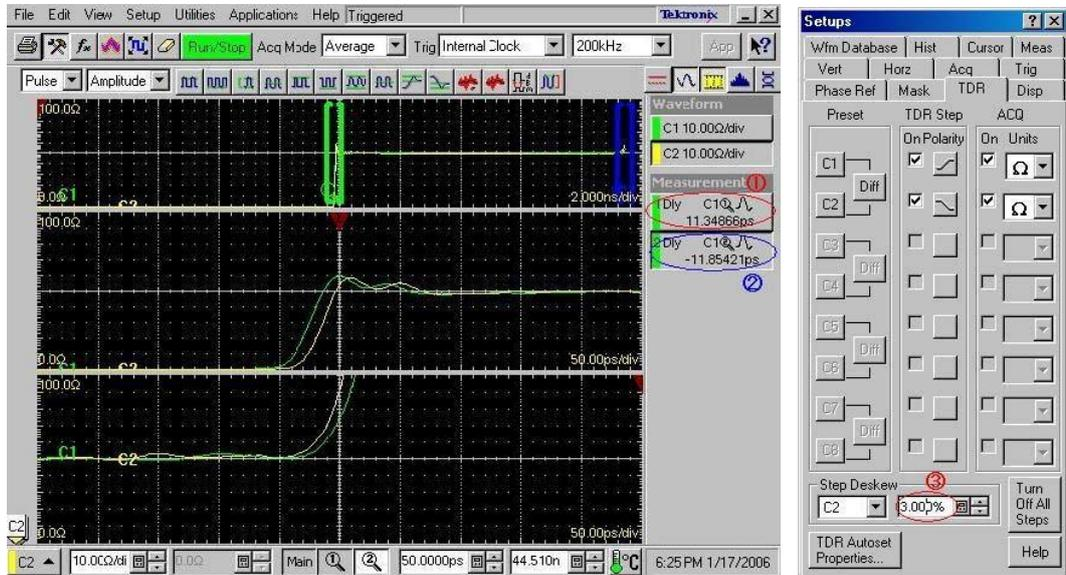
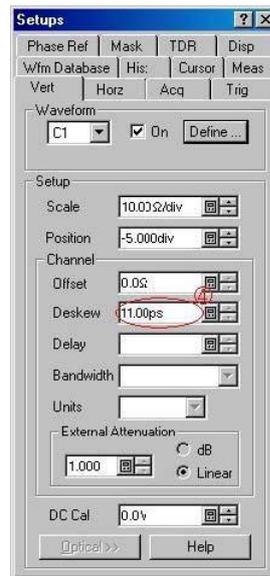

Figure 6 Adjusting the step deskew
Figure 7 Changing the Deskew value
- b. Adjust the readings of ① and ② in Figure 6 are about the same value by changing the **Step Deskew** value (see ③ in Figure 6).
- b. Adjust the deskew so that the reading of ② in Figure 6 has the minimum value by changing the Deskew value (see ④ in Figure 7).